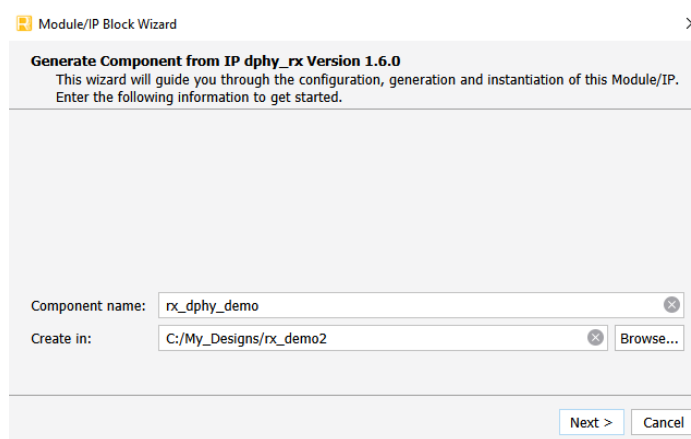

Figure 6.1. Module/IP Block Wizard
2. In the **IP Catalog** tab, double-click **CSI-2/DSI D-PHY Receiver** under **IP, Audio_Video_and_Image_Processing** category. The **Module/IP Block Wizard** opens as shown in Figure 6.1. Enter values in the **Component name** and the **Create in** fields and click **Next**.
- Click **Finish**. All the generated files are placed under the directory paths in the **Create in** and the **Component name** fields shown in Figure 6.1.